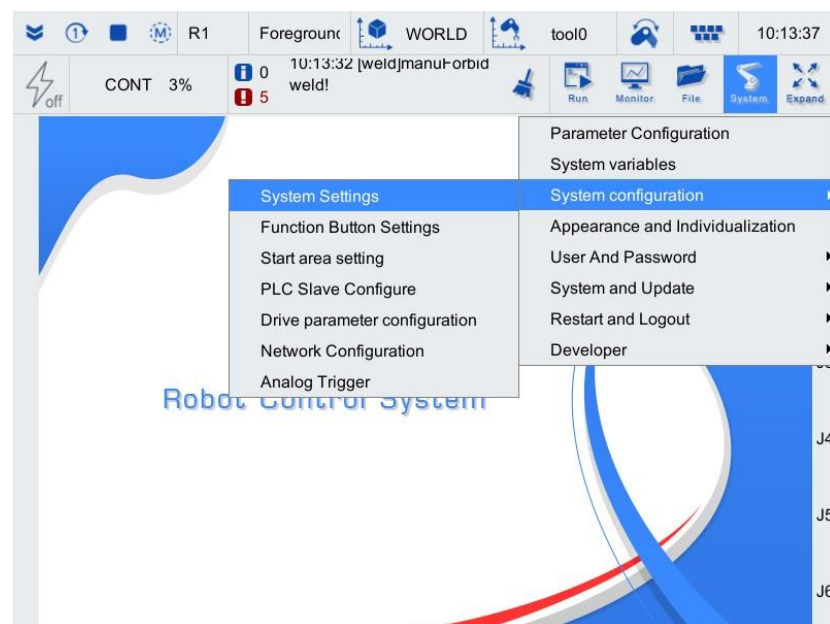

Figure 4-4 PLC slave configuration selection
Step1. On the main interface of the teach pendant, click the [System/System Configuration/PLC Slave Configuration] option, as shown in Figure 4-4.